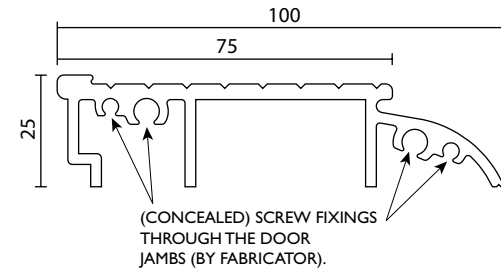
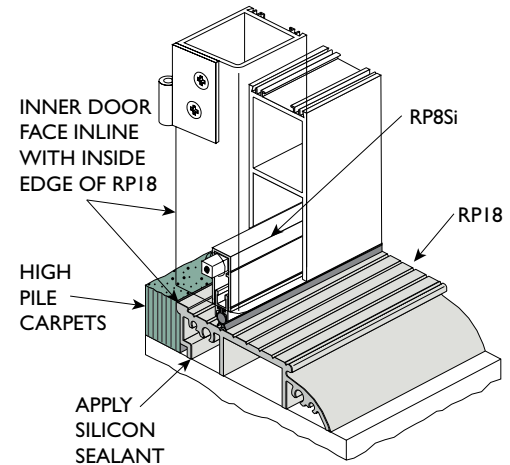

FIG.3
FIG.4
STEP 5 Silicon sealant should be used to seal at sill **(FIG.3 & FIG.4)**